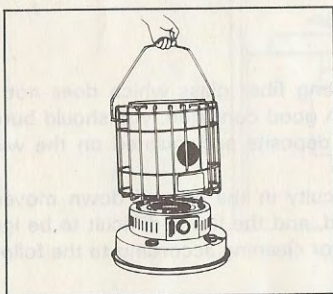

Fig. 19
- (3) Lift the cabinet up and away from the heater (Fig. 19).
(4) Turn the wick adjustment counter clockwise until it stops and then pull it out.